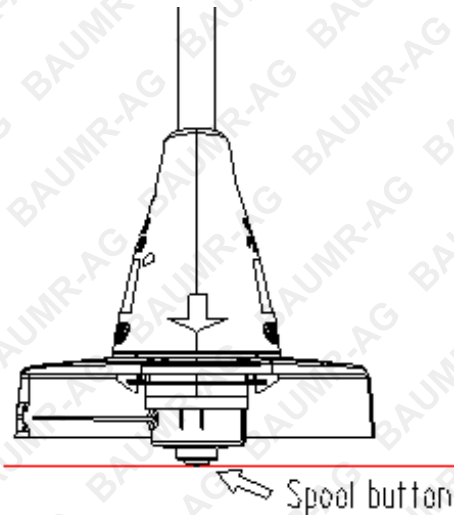

FIG. 6
4. During use, the nylon line will become shortened or worn. To automatically lengthen or advance the nylon cutting line, tap the spool button lightly on ground (while the unit is running) (FIG. 6).